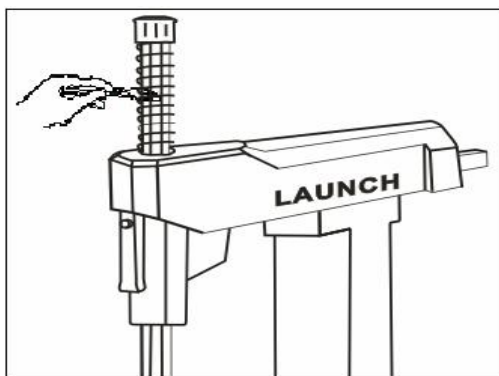

Fig.36
- l Keep the hexagonal column clean and dry (clean with diesel as in Fig. 36).